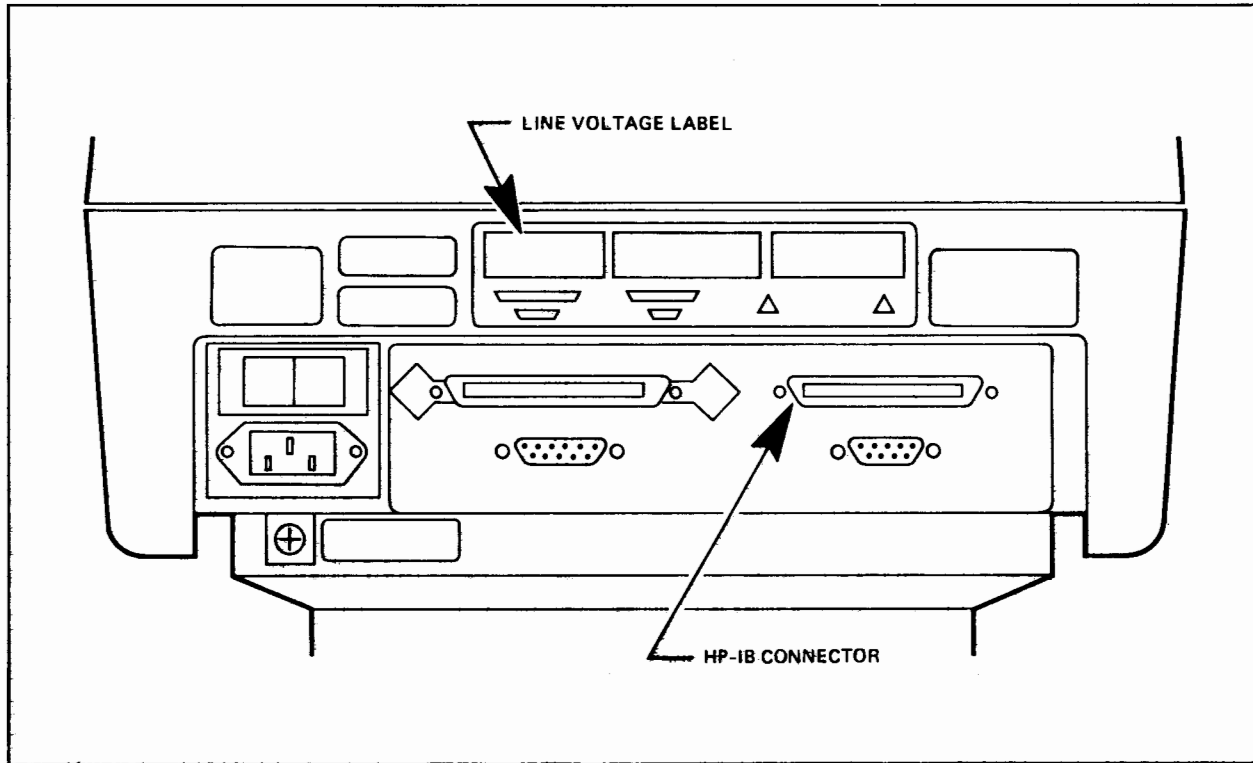

Figure A-1. HP 125 Rear View.
1. Position the plotter next to the System Processor. Attach the plotter cable (HP-IB cable) to the HP-IB connector located on the rear of the plotter. Connect the other end of the plotter cable to the HP-IB connector at the right rear of your System Processor by securing the screws (refer to Figure A-1). Notice, there is only one way to connect the HP-IB connector; therefore do not force the connector.